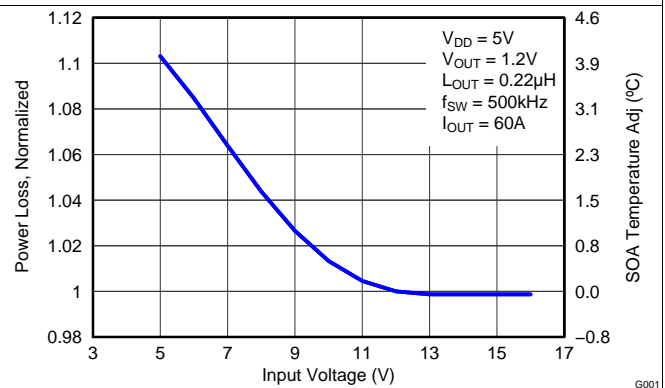

Figure 6. Normalized Power Loss vs Input Voltage
- Normalized Power Loss for input voltage ≈ 1.06 (Figure 6)
- SOA adjustment for input voltage $\approx 2.4^{\circ}\text{C}$ (Figure 6)